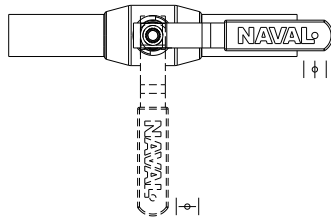

Figure 4.
4.5 The valve handle shall be aligned parallel with the marking line on the stem (Fig. 4)